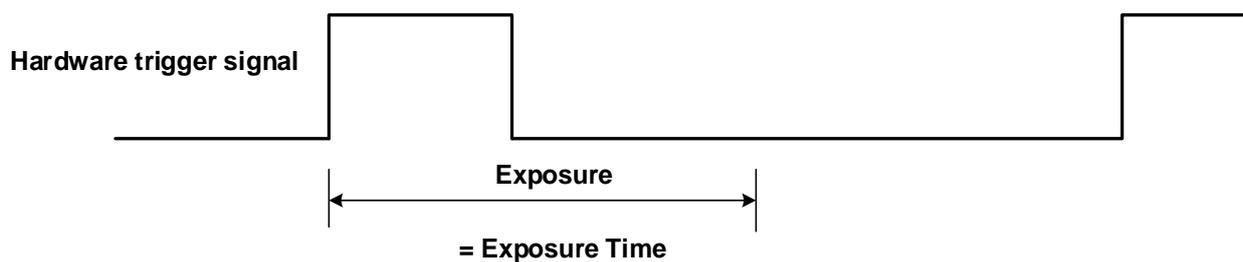

Figure 8-20 The sequence diagram in rising edge trigger of Timed exposure mode
- If rising edge triggering is enabled, exposure starts when the trigger signal rises and continues until the exposure time has expired, as shown in Figure 8-20